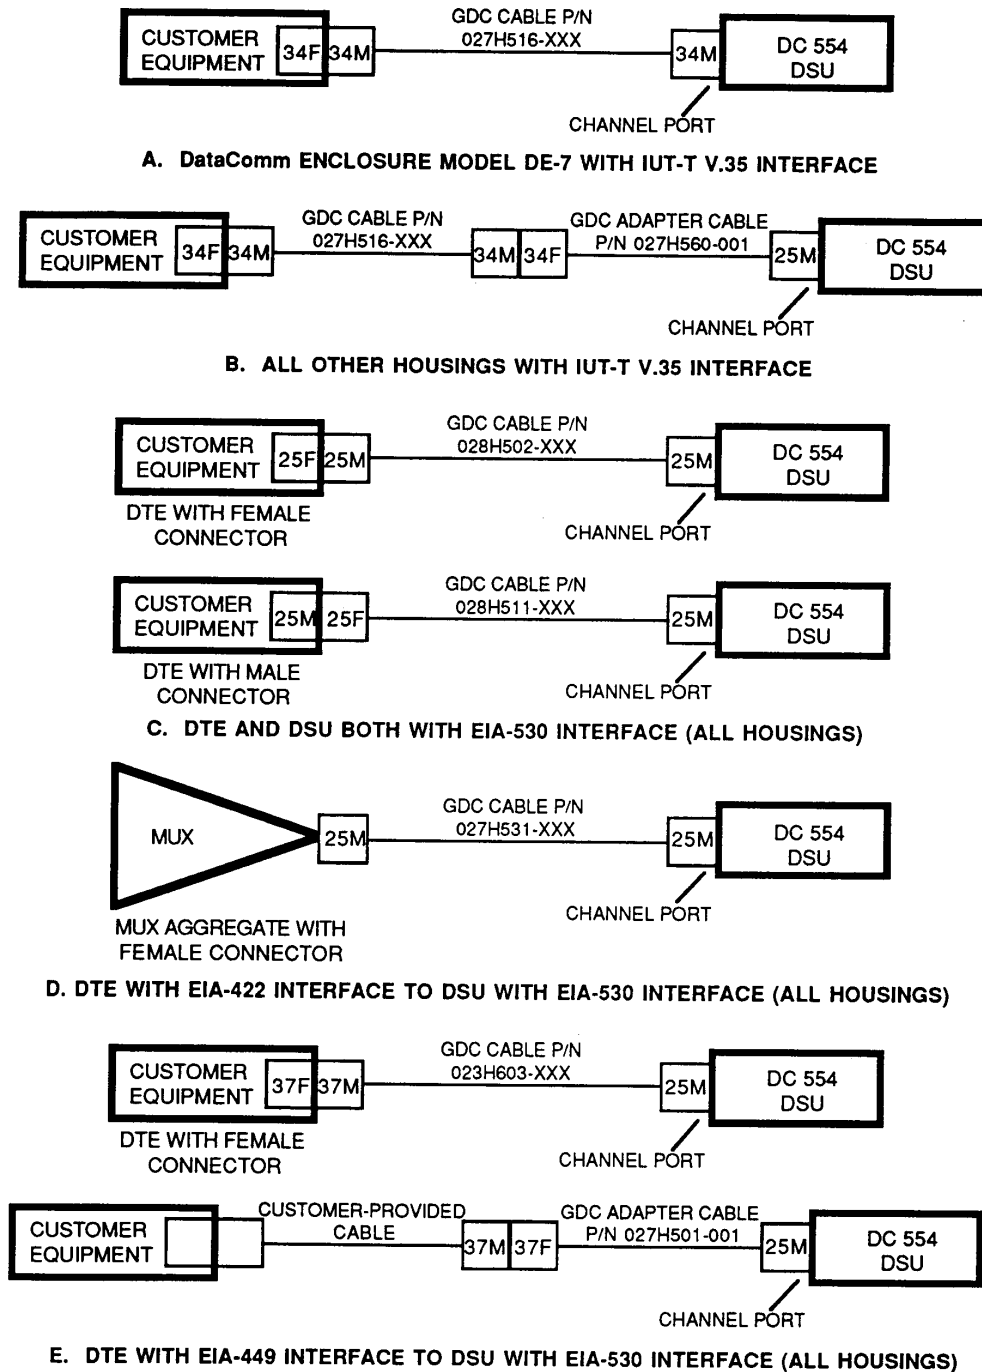

Figure 2-10 Channel Port Cables
1. Securely attach the common end of the jumper to the closest shelf screw, as shown in Figure 2-10. You can attach two jumpers to each shelf screw, grounding four cables.